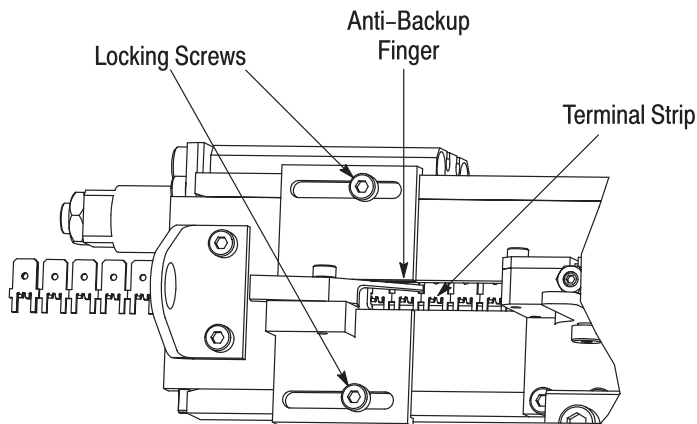

Figure 11
5.2. Feed Finger Forward Position Adjustment (See Figure 11)
5.3. Anti-Backup Finger Position Adjustment (See Figure 11)
5.4. Inserter Assembly Retract Position Adjustment (See Figure 11)
Verify that there is clearance between the tip of the inserter assembly and the top of the terminal within the dimension given in Figure 11. If there is not, proceed as follows:
5. Turn the insertion cylinder rod joint until there is clearance between the tip of the inserter assembly and the top of the terminal within the dimension given in Figure 11.